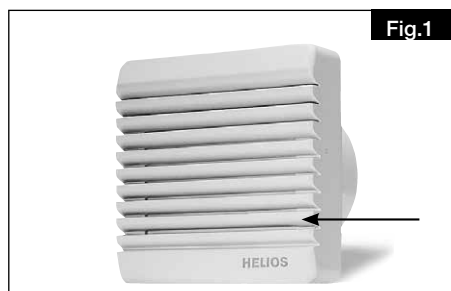

Fig.1
2. Retirer la grille d'aération centrale de la façade (Fig.1).
- drücken lösen (Fig.1).
- Remove front cover by pressing the spring catches using the spring catches on the left and right of the grill with a suitable tool (Fig.1).